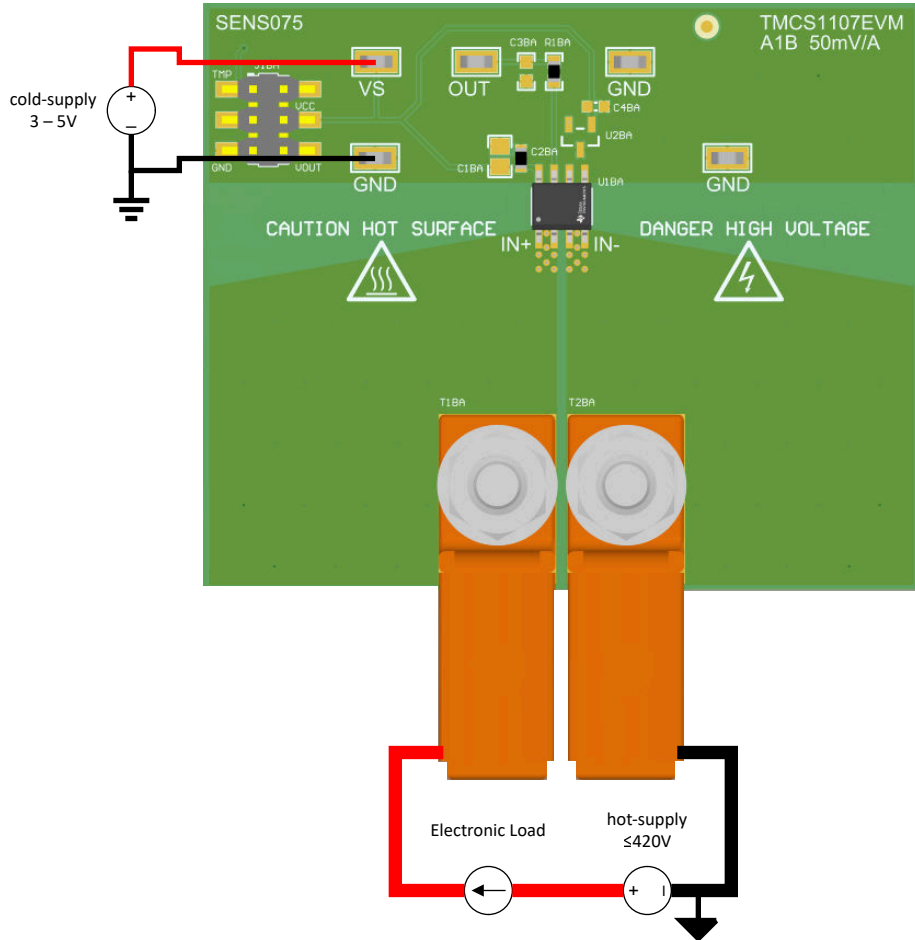

Figure 4-1. Low-Side Forward Current Setup
The following are instructions to set up and use the TMCS1107EVM. For the following instructions, $y = A$ to D for the A1 to A4 gain variants, respectively. Figure 4-1 shows an example of a simple, low-side setup on the A1B (50 mV/A) gain variant. Reverse current can be measured on the TMCS1107nB devices by switching the placement of the hot-supply and electronic load along with reversing their polarities. The EVM has isolation, and external supplies are distinguished by hot for load and cold for DUT supply. The hot supply can be isolated and at a different potential than the cold supply.
1. According to Figure 4-1, for a low-side measurement, connect the electronic load positive input terminal to the positive terminal of a 30-A capable hot-supply. For a high-side measurement, connect the electronic load positive input terminal to the load sourcing terminal (IN+ or IN-) of the EVM. For high-side measurement of forward current, IN- sources to the electronic load; for reverse current, IN+ sources to the load.